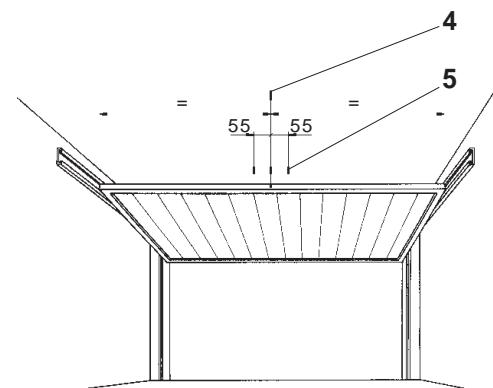

Fig. 3
- Completely open the door, transfer the door center (4) to the garage ceiling. At a distance of 55 mm each from the door center, trace a clearly visible mark (5) on the right and left side. Fig. 3
- Completely open the door, mark the door center (4) on the ceiling → drive axis. Fig. 3